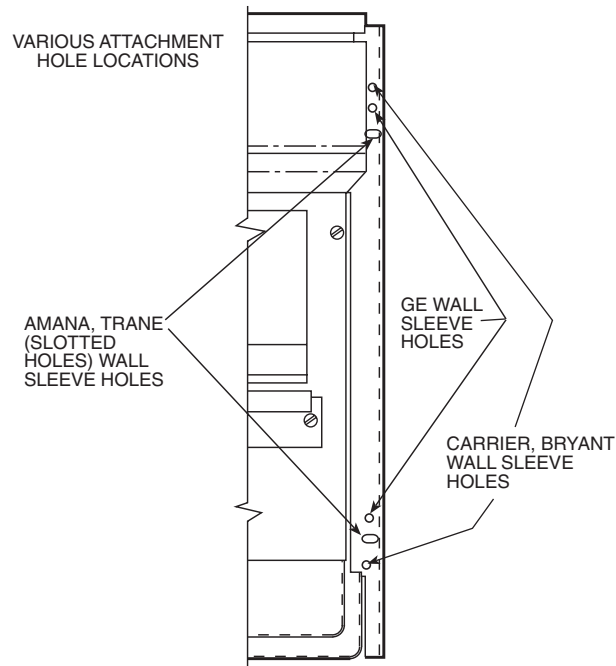

FIGURE 7 — PTAC UNIT TO WALL SLEEVE MOUNTING SCREWS
1. Remove the four mounting screws that secure the PTAC unit to the wall sleeve (2 screws per side). See Figure 7.